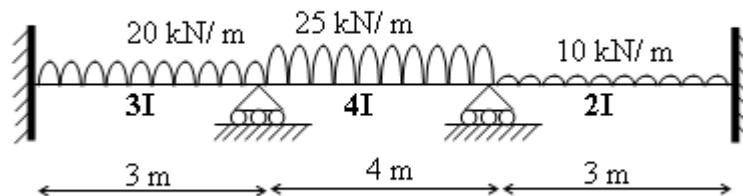

Figure 7:
4. A continuous beam is supported and loaded as shown in figure 7. Draw the shear force and bending moment diagrams. [15]